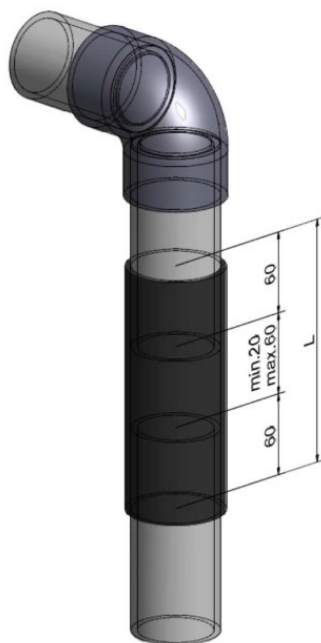

Figure 166: Correct positioning of the flexible connecting tube (black); dimensions in mm
- flexible tube is not long enough, see **Figure 166**.
- The flexible tube length L is delivered in standard with L = 180 mm. For some installations shorter tubes may be installed. In this case cut the flexible tube to match the drawing in **Figure 166**.
- Check if the flexible tube is positioned correctly overlapping 60 mm on each end the grey rigid tube, according to **Figure 166**.